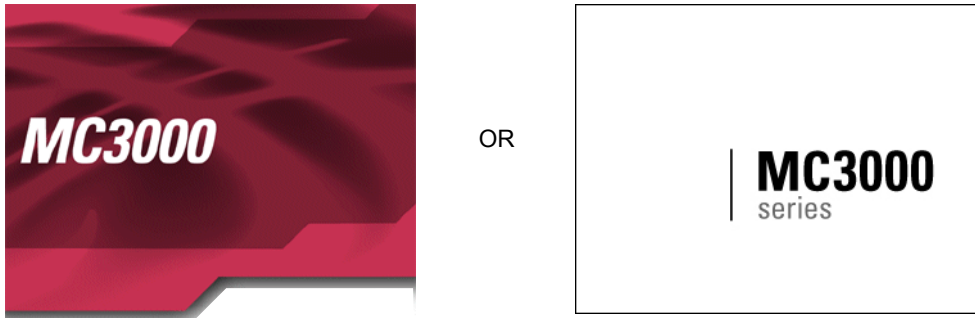

Figure 1-7 Zebra Splash Screen
1. Simultaneously press and then release the **1**, **9** and **Power** keys. Do not hold down any other keys or buttons. As the mobile computer initializes, the Zebra splash window, Figure 1-7 on page 1-9, appears for about a minute.
1. Simultaneously press and then release the **1** and **9**, **MENU** and **Fn** keys. Do not hold down any other keys or buttons. As the mobile computer initializes, the Zebra splash window, Figure 1-7 on page 1-9, appears for about a minute.
2. As the mobile computer initializes, the splash window, Figure 1-7 on page 1-9, appears for about a minute.